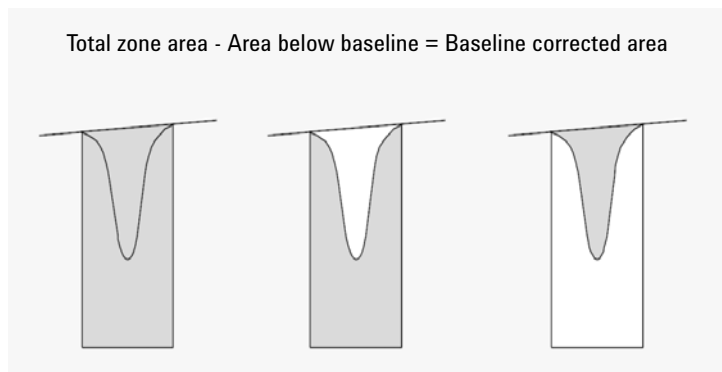

Figure 10 Area Measurement for Negative Peaks
- for tangent (T) peaks, the area above the reset baseline,
- for solvent (S) peaks, the area above the horizontal extension from the last-found baseline point and below the reset baseline given to tangent (T) peaks. A solvent peak may rise too slowly to be recognized, or there may be a group of peaks well into the run which you feel should be treated as a solvent with a set of riders. This usually involves a merged group of peaks where the first one is far larger than the rest. The simple drop-line treatment would exaggerate the later peaks because they are actually sitting on the tail of the first one. By forcing the first peak to be recognized as a solvent, the rest of the group is skimmed off the tail,
- negative peaks that occur below the baseline have a positive area, as shown in Figure 10 on page 30.